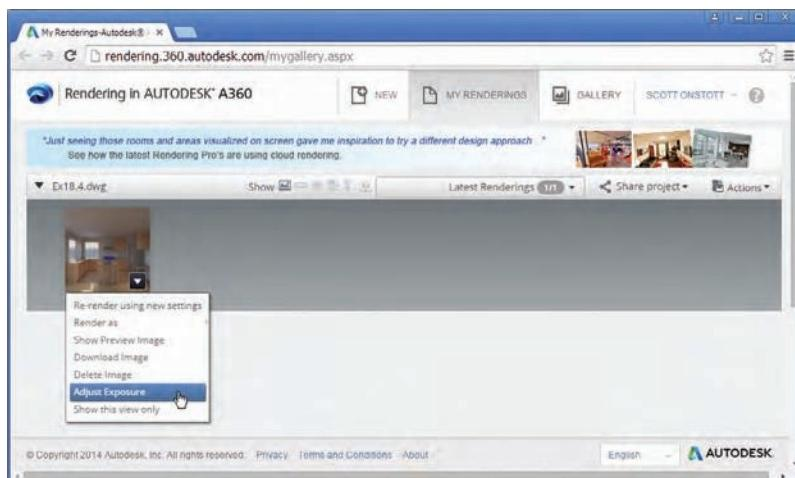

FIGURE 18.16 Rendering in Autodesk A360
4. Click the Render Gallery button to launch your default browser and go to Autodesk's A360 site. After a few moments, your preview rendering will appear as a thumbnail (see Figure 18.16), rendered by Autodesk's network of servers.